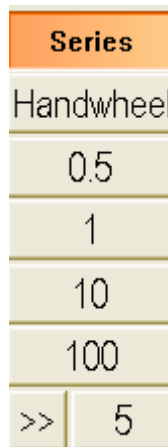

Fig. 6-3 Manual moving buttons
- ◆ **[Series], [Handwheel], [0.5], [1], [10], [100], [>>] manual buttons, see Fig.6-3.**